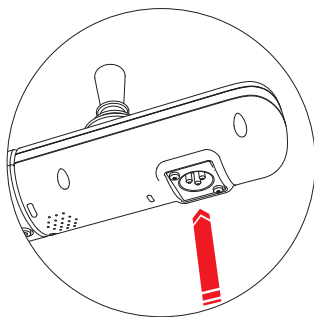

Figure 4.8.1
- Refer to Figure 4.8.1 for a visual guide.